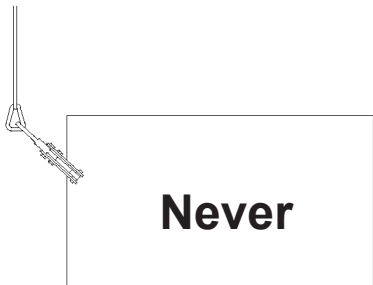

Figure 1: Never lift material from the side with a “V” series clamp.
7. Do not lift material from the side with a “V” series clamp (Fig. 1).
- Do not lift material from the side with a “V” series clamp (Fig. 1).